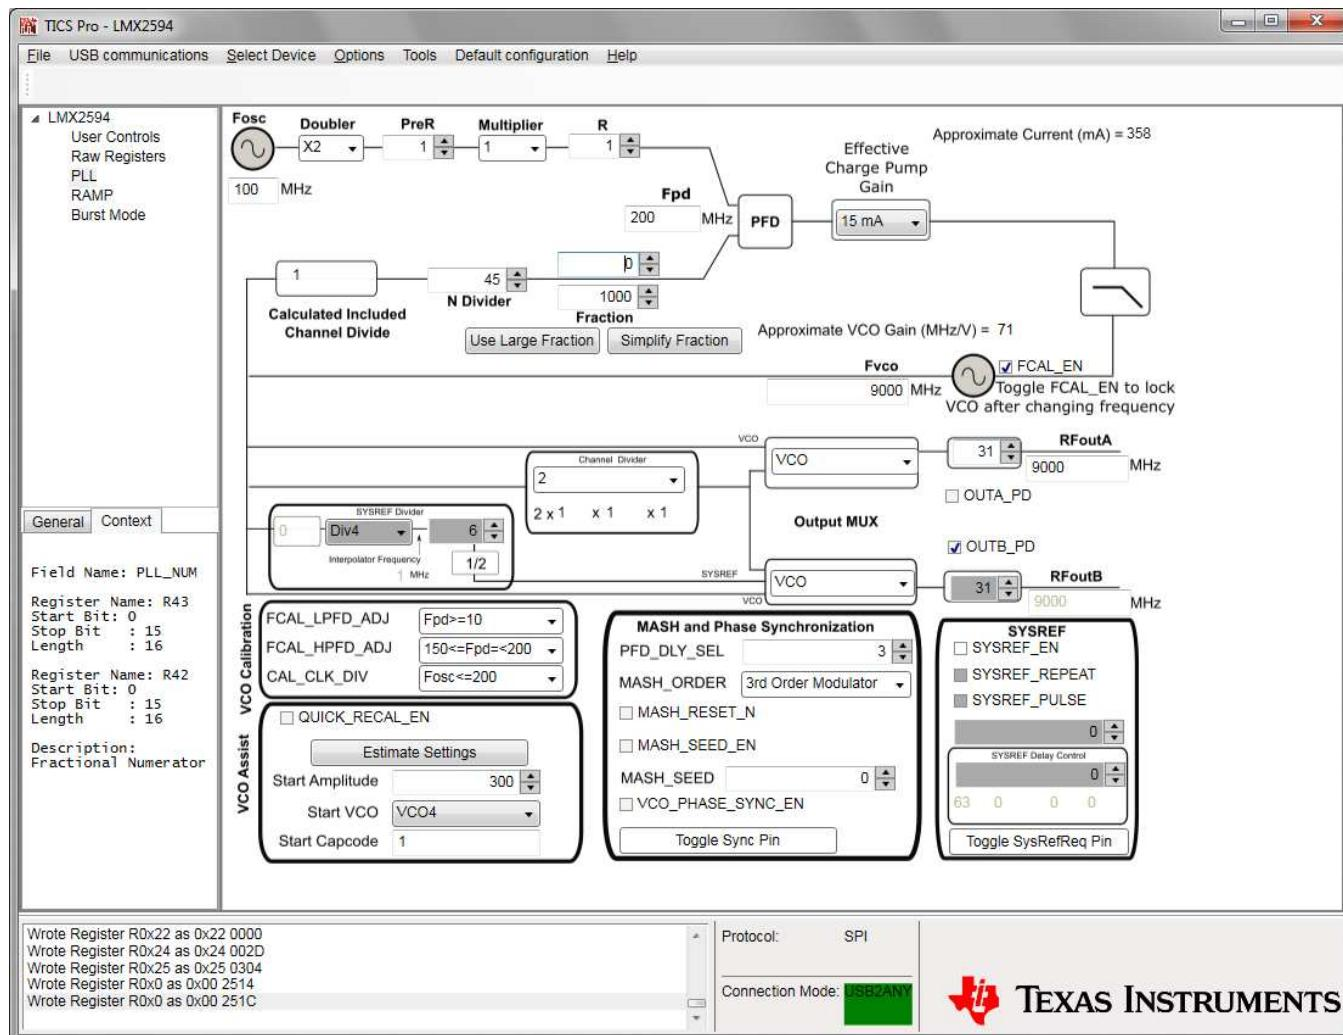

图 4. TICSPro Software Setup
2. To start the software, open the *TICS PRO.exe* from the installed directory. 图 4 shows the user interface.